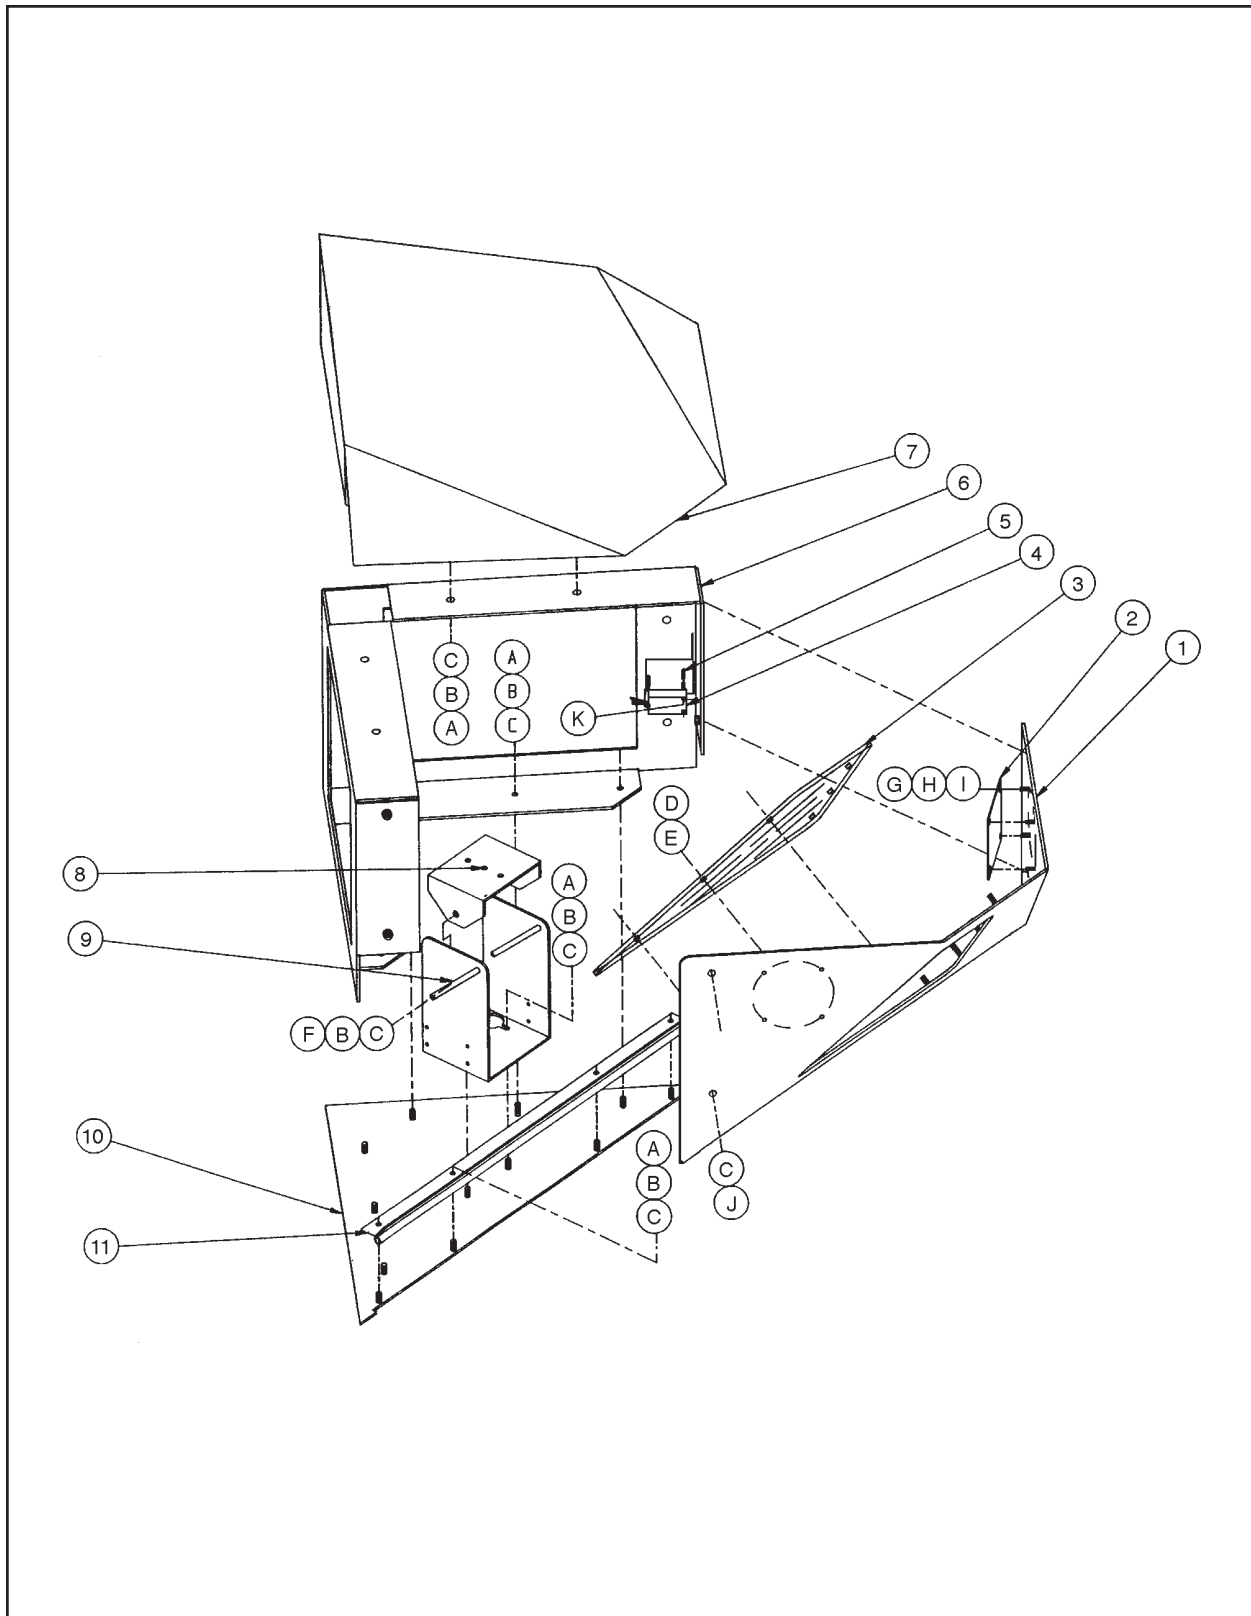

Figure 7. HS1000 Enclosure Exploded Assembly Diagram
6.0 MECHANICAL PARTS LIST FOR HS1000 ENCLOSURE (FIGURE 7)